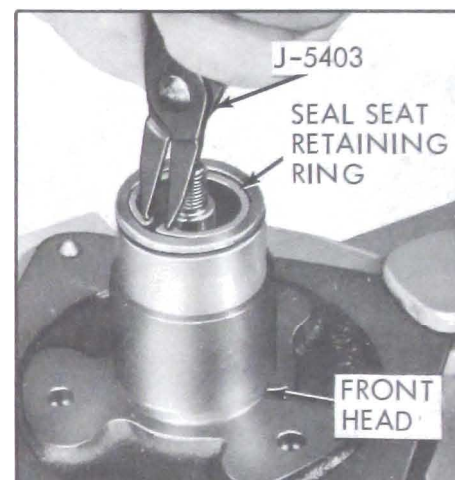

Figure 11-53—Removing Shaft Seal Seat Retaining Ring
2. Remove shaft seal seat retaining ring from inside front head, using J-5403, No. 21 Truarc pliers. See Figure 11-53.